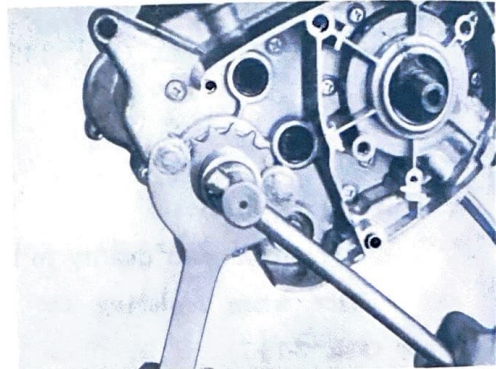

Fig. 3-14-2
- b. Lock the drive sprocket with the flywheel magneto holding tool, and loosen the sprocket nut. (Fig. 3-14-2)